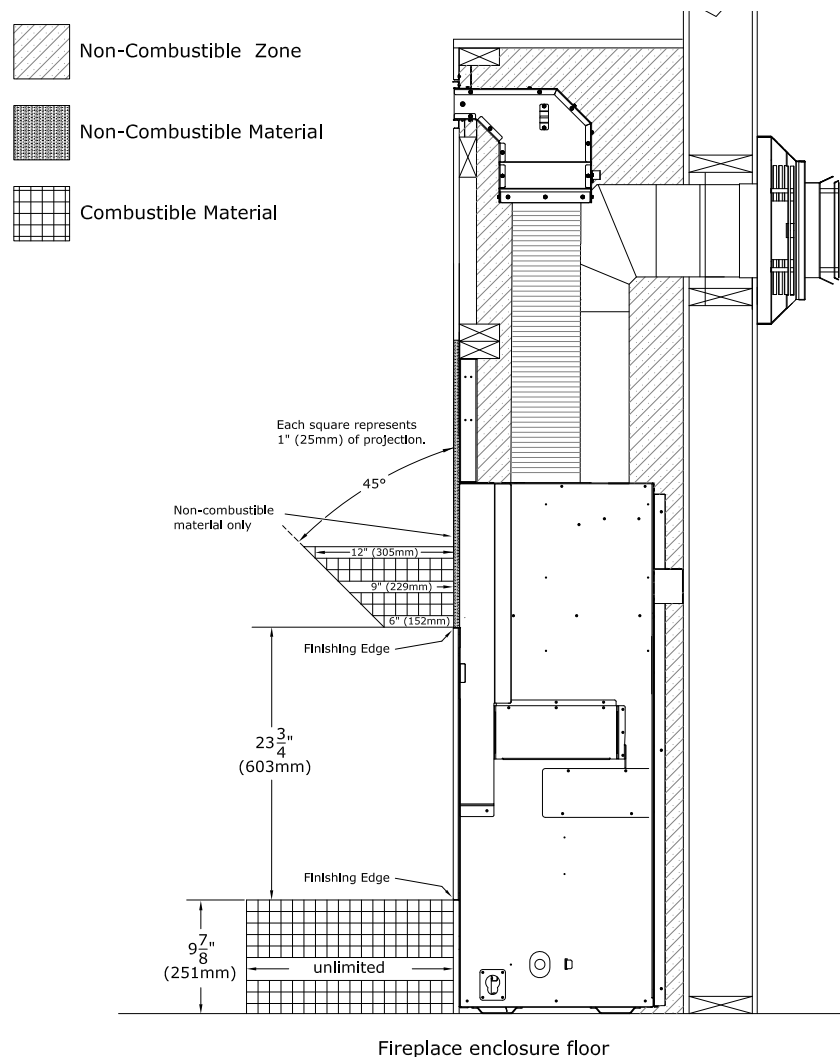

Figure 3.9 - Nordik 48TL Combustible Hearth and Mantel Requirements
- Combustible Mantel Projections (no surround): As referenced in FIGURE 3.9, the 6" (152mm) mantel can start flush with the top finishing edge. Mantel projections can increase 1" (25mm) of depth for every 1" (25mm) of height starting at the 6" (152mm) mantel.